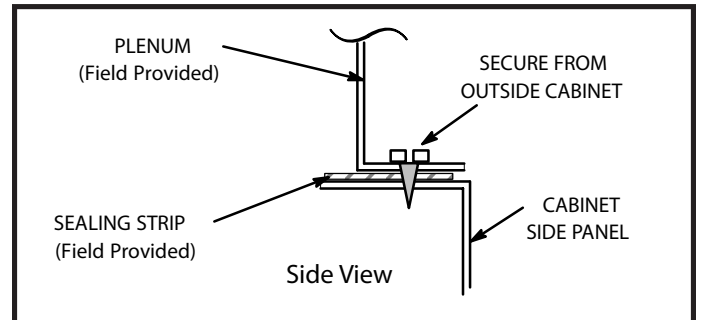

Figure 11
1. Bottom edge of plenum should be flanged with a hemmed edge (See Figure 11 or 12).